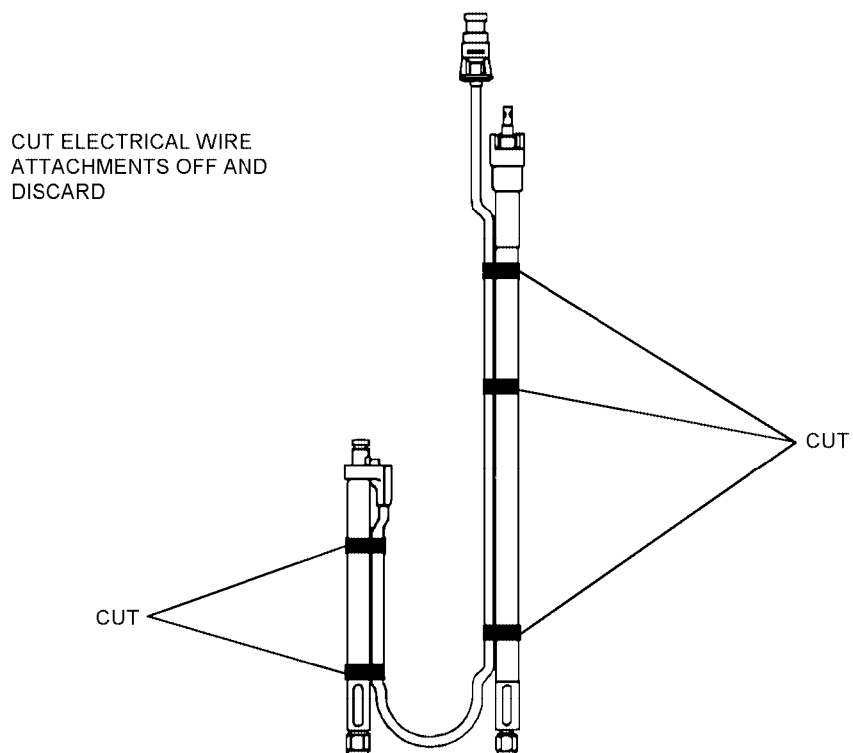

Figure 4-44. Trim Wire Keepers
- a. Trim silicone rubber wire keepers from existing hose assembly (figure 4-44) and discard.
a. Trim silicone rubber wire keepers or cable tie (if ACB 622 is installed) from existing hose assembly (figure 4-44) and discard.